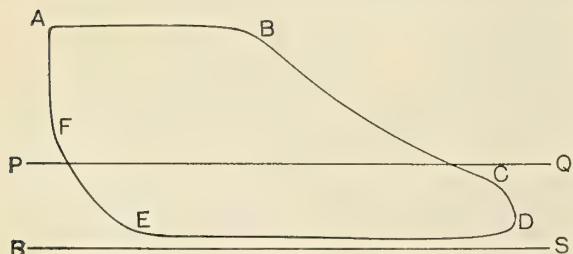

FIG. 88.
**Mean Effective Pressure**—By the *effective* pressure we understand the resultant of two pressures acting in opposite directions, as for example, one on the bottom of the piston acting upward, and one on the top acting downward. The *mean* effective pressure will then be the mean resultant of such pressures for a stroke or for a revolution. Referring to Fig. 88 the mean forward pressure (say downward) will be given by the mean of the ordinates from the line of zero pressure *R S* to the upper boundary of the card *A B C D*, while the mean back pressure (upward)